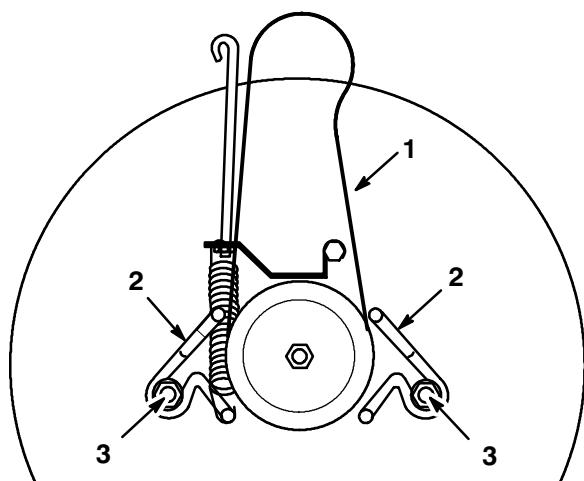

Figure 43
2. Loosen the belt guide mounting bolts and move belt guides away from the pulley (Fig. 43).
1. Install the new belt around the blade pulley and inside both belt guides (Fig. 43).
2. Adjust the belt guides so they are 1/8" (3 mm) away from the pulley and tighten mounting bolts (Fig. 43).